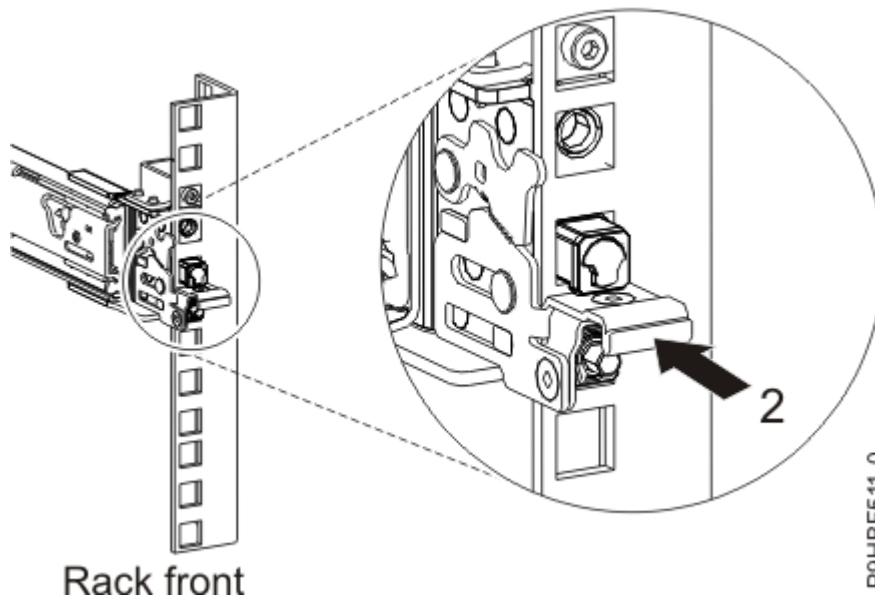

Figure 4. Latch seated on the front rail of the rack
4. While you pull the slide rail forward, ensure that all three pins protrude through the rack holes, then push the front latch (2) all the way in. See Figure 4 on page 5.